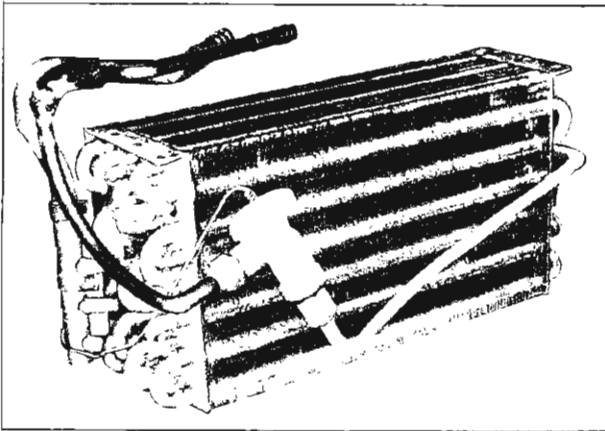

Fig. 11—Evaporator Case Removed
5. Carefully draw the core and expansion valve assembly out of the case (see fig. 11).